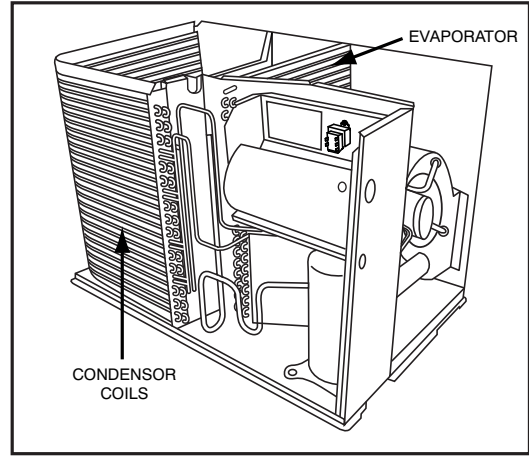

Fig. 8 – Access of Condenser Coil
- b. Screws from the compressor compartment and either the side of the unit or below the condenser fan (depending on the shape of coil) will need to be removed to remove condenser coil. (See Fig. 8.)
- b. (042 to 060) The indoor evaporator coil is held in place by screws located in the compressor compartment and on the rectangular duct flange. The rectangular duct flange does not need to be removed but the left side screws will have to be removed. (See Fig. 8 and Fig. 9.)